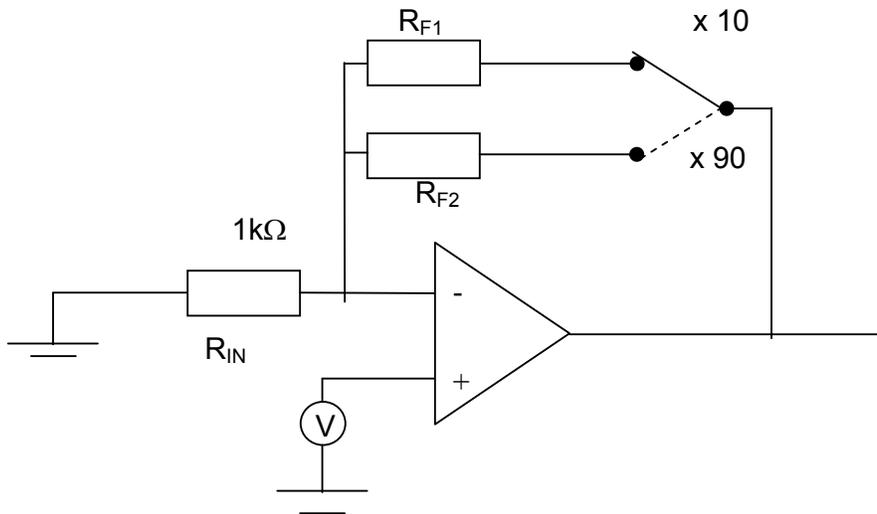

FIGURE 7.1 – OPERATIONAL AMPLIFIER CIRCUIT (8)
7.2 The circuit shown in FIGURE 7.1 must switch between a gain of 10 and 90. Calculate the values of R_{F1} and R_{F2} that must be used.